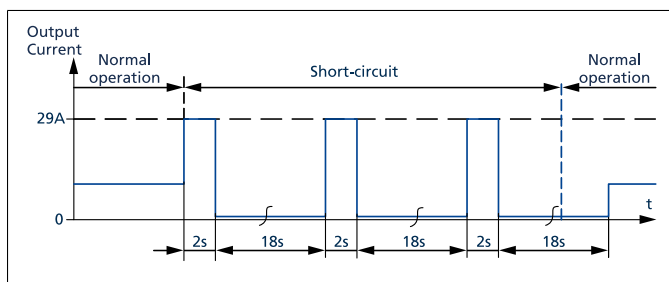

Fig. 6-3: Short-circuit on output, HiccupPLUS mode, typ.
2) At heavy overloads (when output voltage falls below 13V), the power supply delivers continuous output current for 2s. After this, the output is switched off for approx. 18s before a new start attempt is automatically performed. This cycle is repeated as long as the overload exists. If the overload has been cleared, the device will operate normally. See Fig. 6-3.